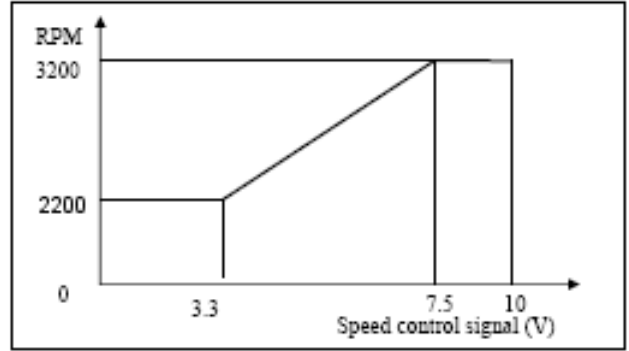

**Figure 4 Adjustable Speed Control Connection**
- ❑ Connect the white to the positive and the blue to the negative (Figure 4).